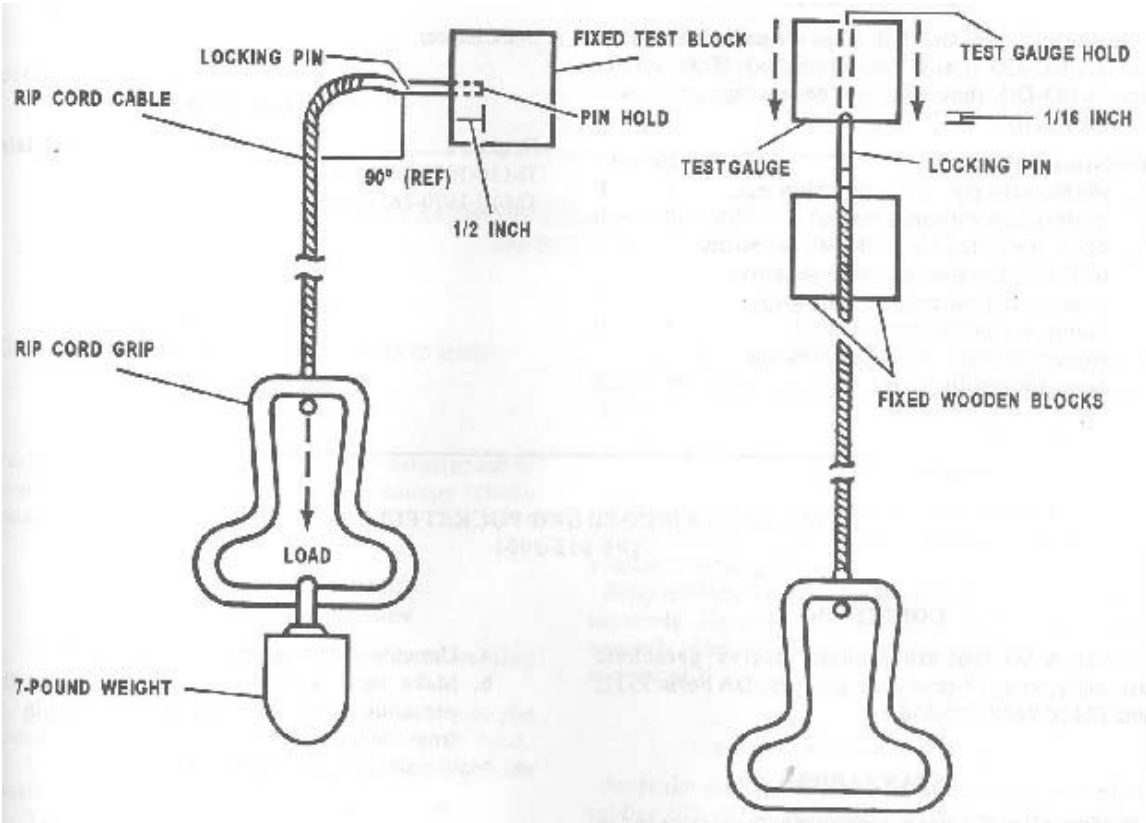

Figure 3-57
1. Perform the rip cord locking pin test. (See Figure 3-57)